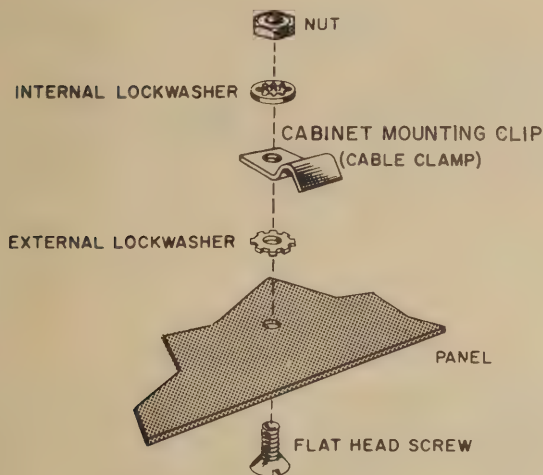

FIGURE 2. HOW TO ASSEMBLE THE CABINET CLAMP
- (✓) Insert the short flat head screw through the hole in the top center of the panel. Place an external lockwasher over the screw. Next put one of the cable clamps over the screw. Now, put on an internal lockwasher and tighten a nut over it very securely. See Figure 2.